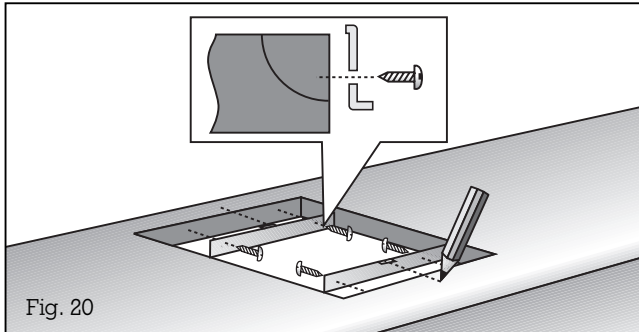

Fig. 20
– **Mark the centre** of the recess exactly. Secure the securing rails on both sides in the recess. Make sure that the lugs of the securing rails lie on the worktop and that the centre marking on the securing rails is precisely flush with the centre marking on the worktop (Fig. 20).